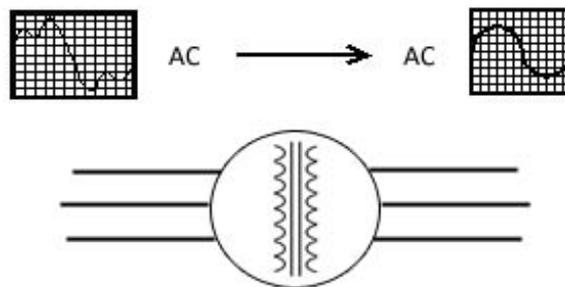

Figure 6 : Input Isolation Transformer Block Diagram
*Figure 6: Input Isolation Transformer Block Diagram* demonstrates the Input Isolation Transformer working principle briefly. The Input Isolation Transformer is designed to eliminate noise, surge, leakage current of the utility AC power to protect the components of the UPS and provide clean AC power for the 6 Pulse Rectifier.